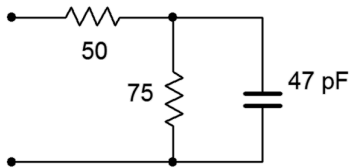

Figure 4.1
1. Determine the impedance of the circuit of Figure 4.1 at frequencies of 100 Hz, 10 kHz and 1 MHz.